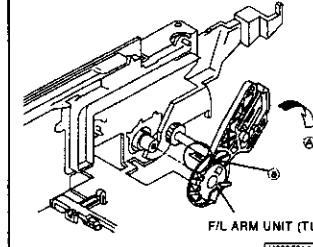

Fig. 2-26-1
- 1 Fully move the F/L ARM UNIT (TU) in the direction shown by arrow (A) as shown in Fig. 2-26-1.
- 2 Unfasten the catch (a) of the F/L ARM UNIT (TU) shown in Fig. 2-26-1 to remove the F/L ARM UNIT (TU).